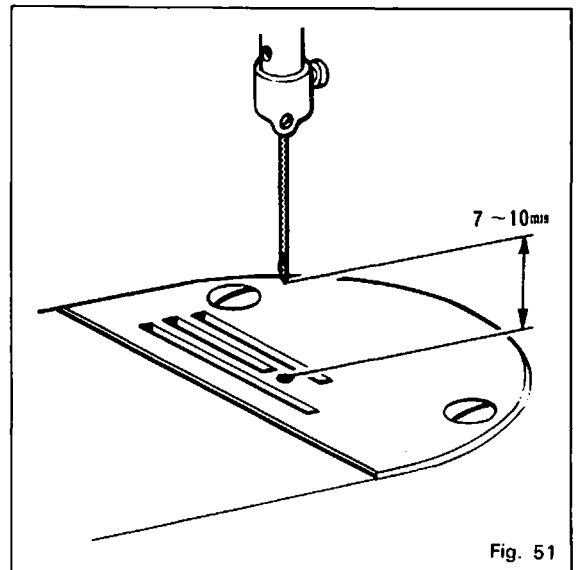

Fig. 51
When the sewing machine stops at its needle up position after treadle pedal pressed down by your heel, adjust to move the position of needle up lead switch ④ (Fig. 49) by loosening its screw so that the distance from point of needle and top surface of needle plate may be 7-10mm. (Fig. 51)